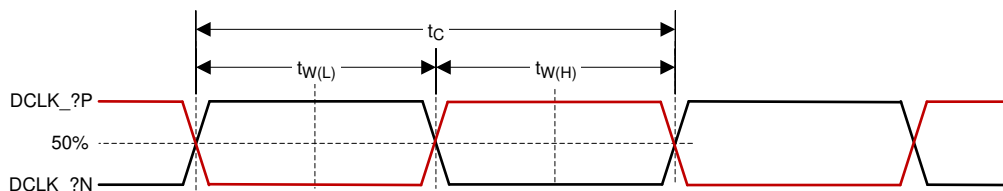

图 5-12. HSSI CLK Characteristics
(6) See 图 5-12 for pulse duration high and low for HSSI.